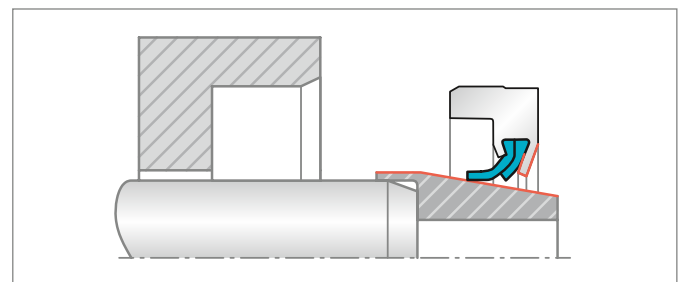

Figure 18: Ensure there is sufficient clearance between the support leg and the assembly cone
- Be aware that the extended metal pressure support behind the lip arrangement of the Type C design has a close clearance to the shaft (Figure 18). It is advised that the inside diameter of this support is measured before manufacturing the assembly cone to ensure that there is sufficient clearance.